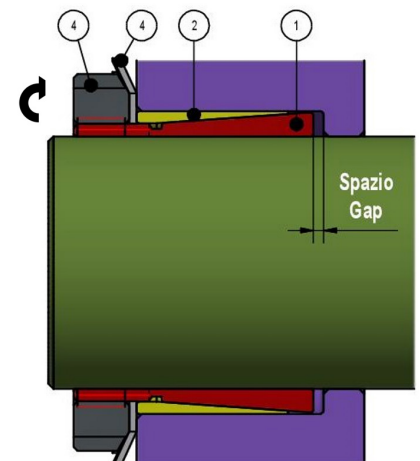

Fig. 4
3. Insert Locking Assembly into the hub bore and make it slide onto the shaft, making sure that connected components are positioned as required. **Inner respectively outer rings shall be completely supported by shaft respectively hub bore (fig. 4).** Installation into hubs with shoulder requires a few mm's gap between inner ring and shoulder (fig. 4).
5. Use a calibrated torque wrench and tighten the nut to the specified tightening torque (Ma) (fig. 4).